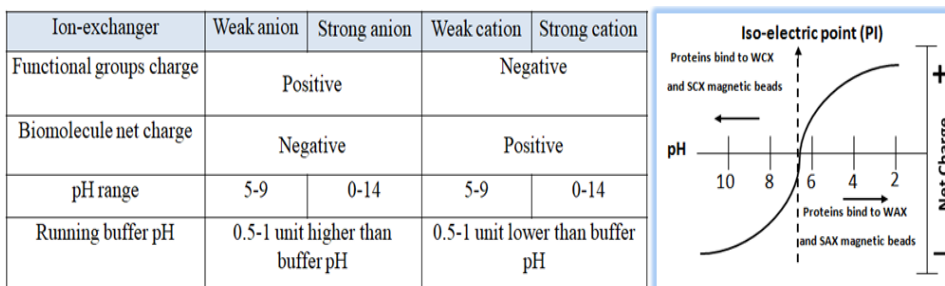

Fig.2
- Based on the protein's pI, empirically calculate the appropriate buffer (pH and salt concentration) for purifying and eluting the protein of interest (Fig.2). In a buffered solution above the protein's pI, the protein becomes negatively charged (deprotonated) and binds to the positively charged functional groups of an anion exchange resin. To choose the correct buffer for a selected pH, the following is a general rule for selecting a buffer pH: